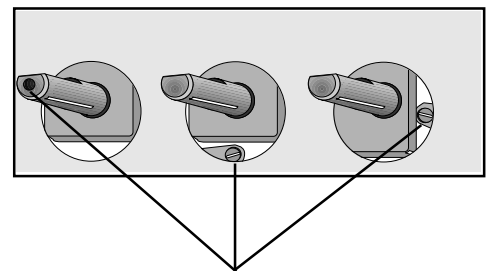

Fig. 8
- With a thin screwdriver, adjust the by-pass screw (see Fig. 8). If changing from natural gas to LPG, completely tighten clockwise the screw, until a small regular flame is obtained. If changing from LPG to natural gas unscrew about 1/4 turn the by-pass screw, until a small regular flame is obtained.